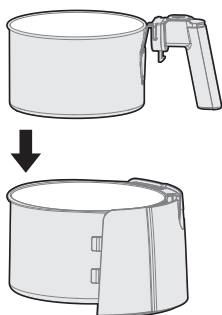

Figure 2
- 2 According to different configurations install the barrel assembly (Figure 2), then push it into the Main unit (Figure 3).